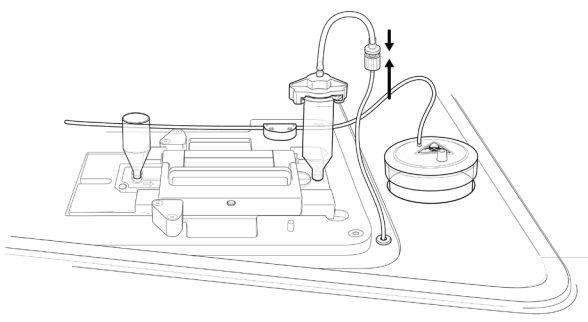

Fig. 37. Attach the vacuum tubing to the Backflow Adaptor tubing.
- Attach the vacuum tubing to the Backflow Adaptor (Figure 37).